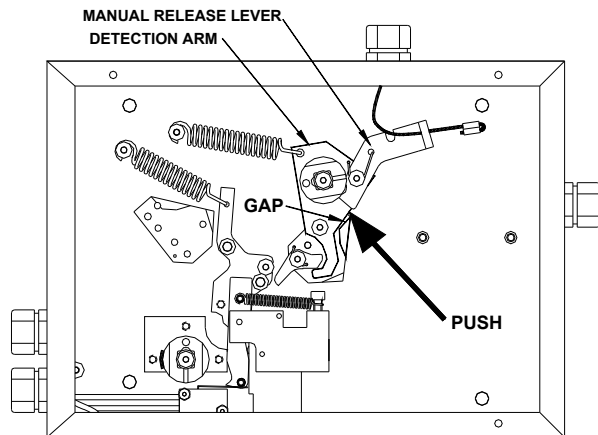

Figure 4-46.
5. Firmly push the Detection Arm to the left with your finger to remove any additional slack from the detection line; this will remove any additional slack from the fusible link line (see **Figure 4-46**). **Caution: DO NOT** push on the Manual Release Lever.